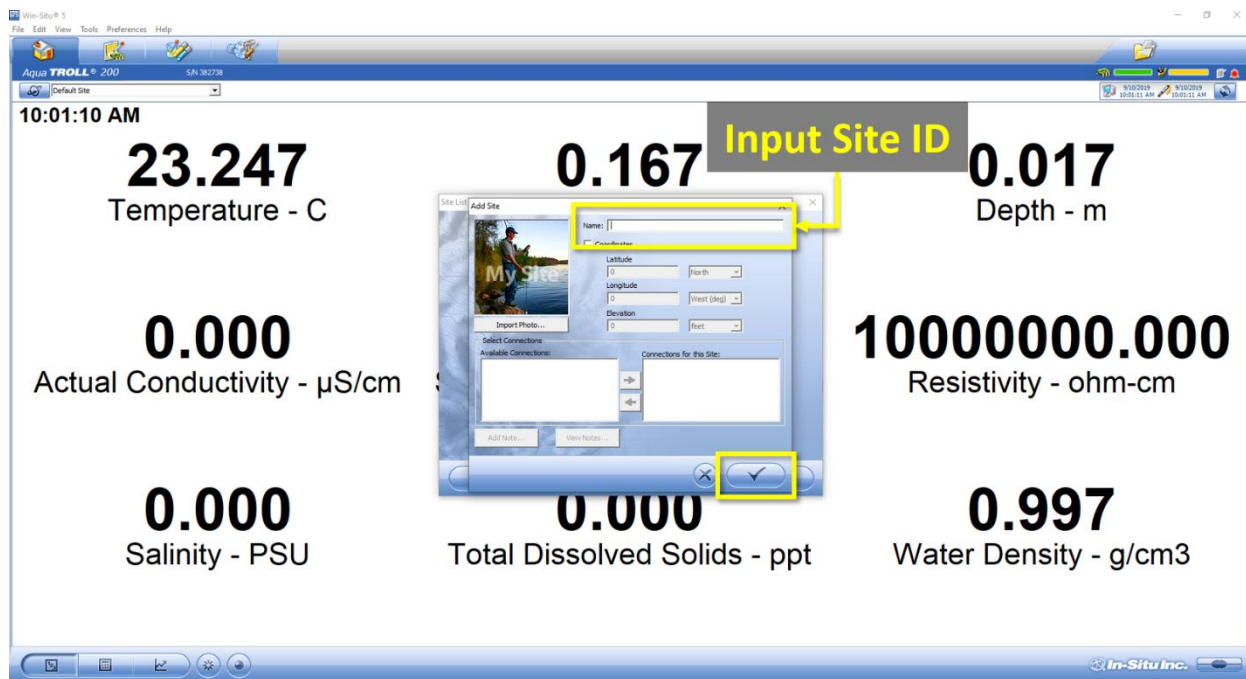

Figure 37. Input Site ID in Name Field and then Select the Checkmark to Save the Site to the Site List
- In the **Add Site** pop-up window, enter the site ID for the site that is missing from the dropdown options (Figure 37), for example, SYCA is the site ID for Sycamore Creek. Only the **Name** field is required. Click on the checkmark to save the site name to the **Site List**.